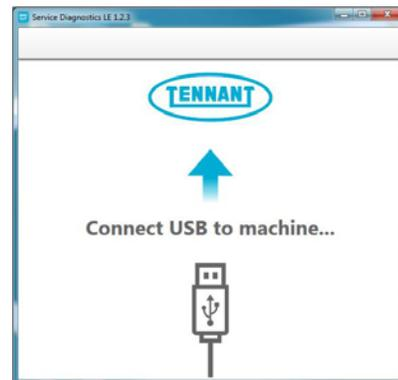

Fig. 3
2. After software start up, the following screen will appear (Figure 3).